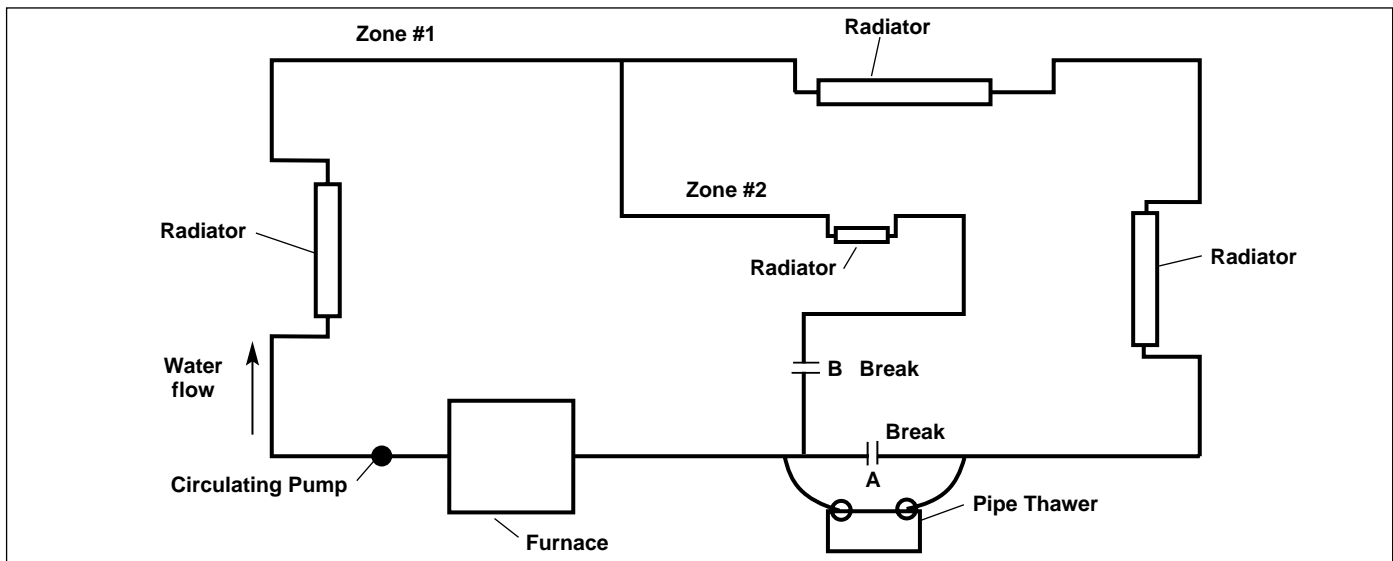

Figure 7 – Multi Zoned System
NOTE! The electrical output current of both the KT-190 and KT-200 can take two paths. The shortest distance between the clamps, or the long path around the pipe loop. Therefore, in some systems it is required to break the pipe to eliminate the short path (Figure 7).
2. Break the pipe at Point A and place pipe clamps as shown in *Figure 7*. This forces the current to flow through Zone #1. Use a container to collect the water.